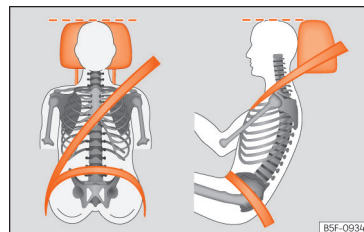

Fig. 18 Correct belt web and headrest positions
your head and under no circumstances below eye level. Keep the back of your neck as close as possible to the headrest >>> **Fig. 18.**
- Adjust the seat lengthwise so that you can fully step on the pedals with your knees slightly bent and there is a distance between the knee area and the instrument panel of at least 10 cm (4 inches) >>> **Fig. 18.**